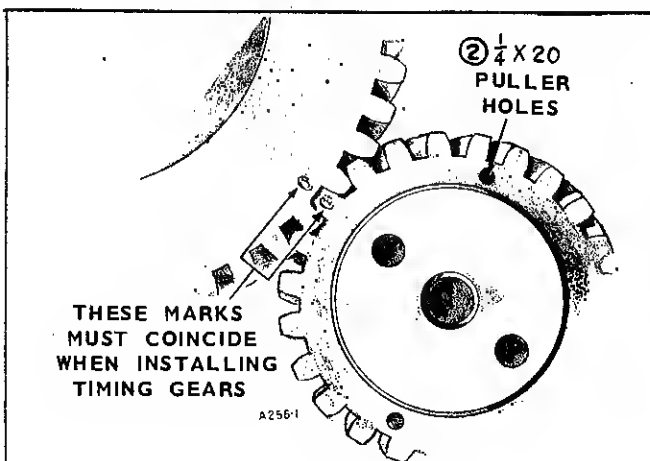

FIGURE 71. TIMING GEAR MARKS
4. Install the camshaft assembly in the engine. Align the timing marks on the camshaft gear and crankshaft gear (Fig. 71).